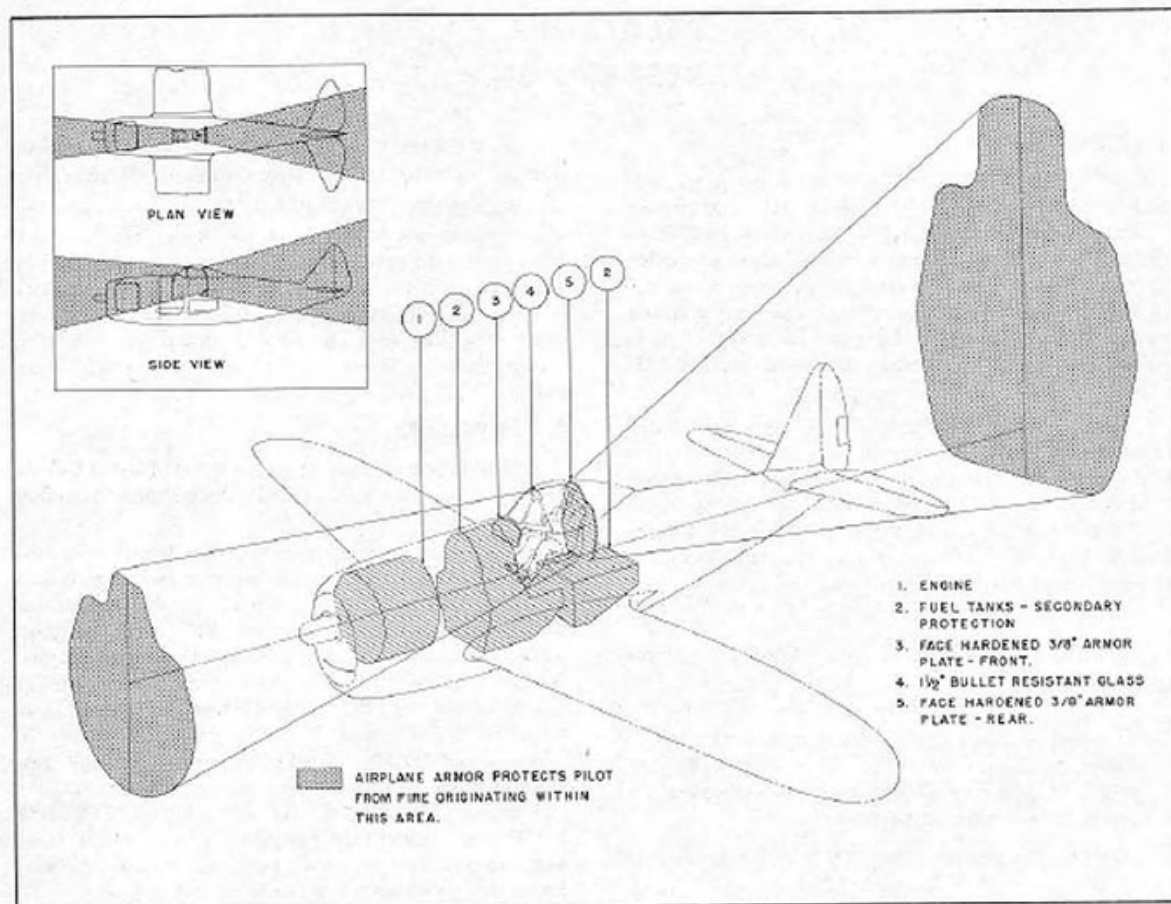

Figure 3—Angles of Personnel Protection
(1) ARMOR.—Front and rear armor protection for a direct right-angle hit is provided for the pilot. Enemy fire originating within the areas graphically illustrated in figure 3 will not reach the pilot.
(2) CRASH PROTECTION. — A welded crash skid is installed in the under side of the fuselage.